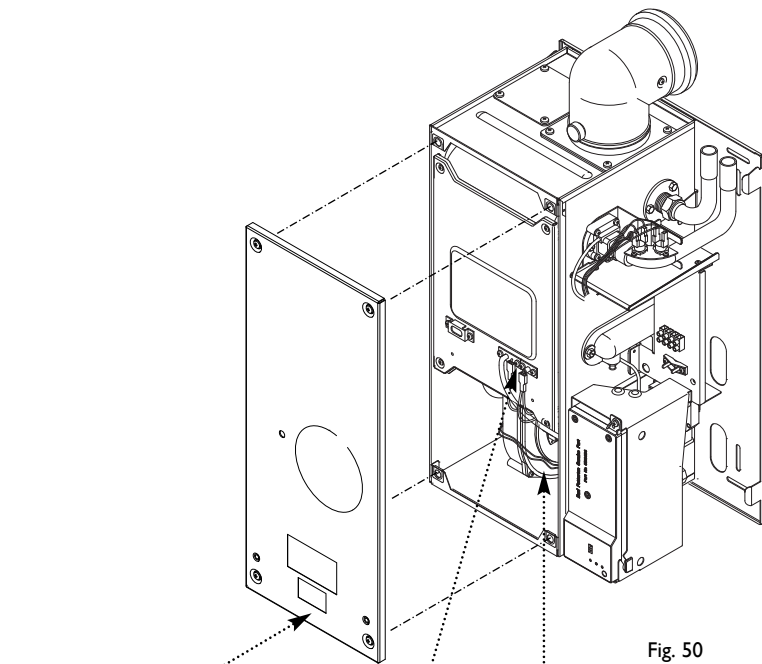

Fig. 50
1. Remove the airbox door panel by loosening the four $\frac{1}{4}$ turn screws (Fig. 50).